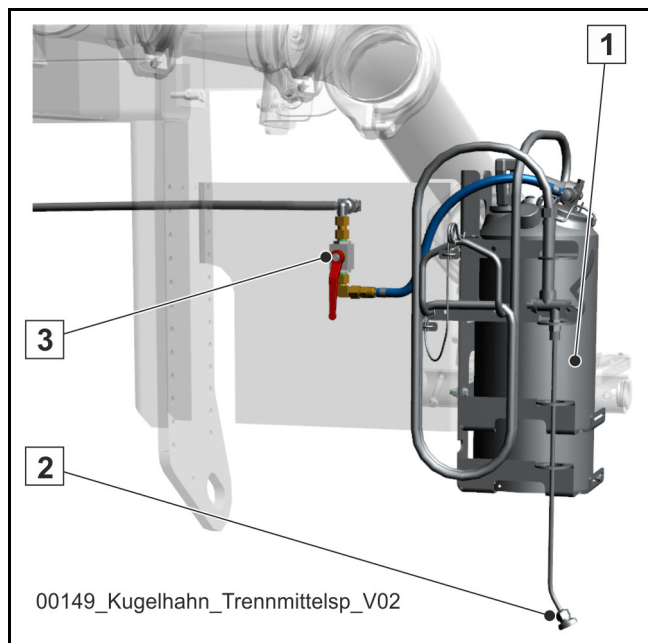

Fig. 509
If available, interrupt the compressed air supply by closing the ball valve (3) (**Fig. 509**). If there is no ball valve, shut down the vehicle.
The special equipment "release agent sprayer", consisting of a pressure tank (1) spray gun (2) and a ball valve (3) (**Fig. 509**) is generally located at the rear of your SCHWING machine.
Caption (Fig. 509)